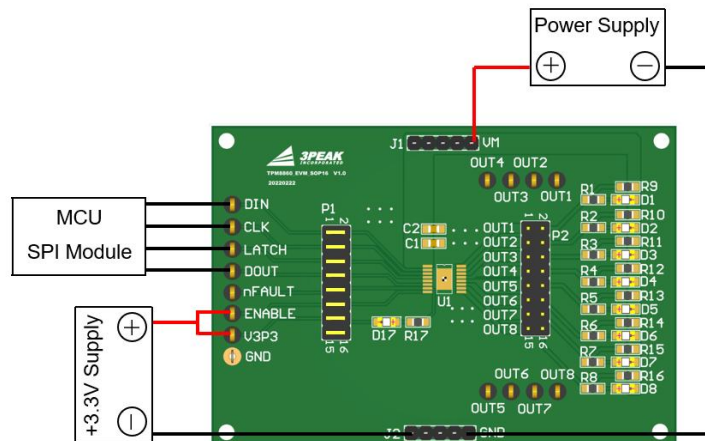

Fig. 3 EVM Test Setup
Referring to Table.3, the recommended connections to evaluate TPM8860-EVM is shown in Fig.3.
- Set up the EVM as described in Fig.3.